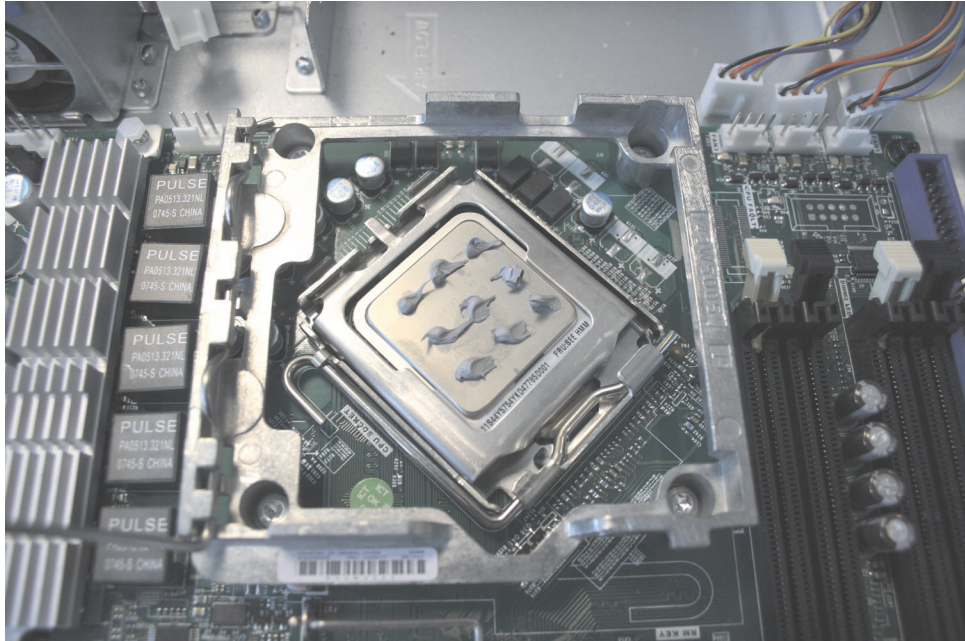

Figure 185. Complete set of nine thermal grease dots on the SAN Volume Controller 2145-8A4 microprocessor
- d. Apply thermal grease to the top of the microprocessor, as shown in Figure 185 on page 200. Apply nine dots of thermal grease in three rows of three dots each with the outer rows approximately 5 mm from the